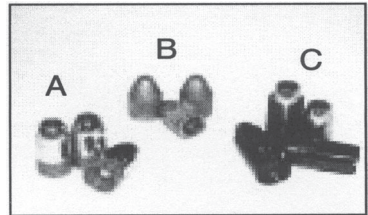

Figure 1-A
PowerBelt™ Bullets are conical projectiles with a plastic base. Like sabots, the PowerBelt™ Bullet's patented snap-on base creates a perfect gas seal, providing consistent pressures and un-surpassed accuracy. But unlike sabots, PowerBelt™ Bullets are easy to load and do not require cleaning after every shot. And they are full caliber sized, so you get the most knock down power possible out of a muzzleloader. PowerBelt™ Bullets are available in .45, .50, and .54 calibers, copper coated or pure lead, with hollow points or AeroTips, and in a variety of grain weights. They are the #1 selling muzzleloading bullet on the market and the only bullet recommend for CVA in-line rifles. (Figure 1-A)
2. CONICAL BULLETS—such as the CVA Buckslayer Bullet and others of this type provide acceptable accuracy in all CVA firearms as well as increased knock down power desired by hunters. These projectiles are best suited for use in medium to fast twist rifling barrels which stabilize the bullet more rapidly. (Figure 1-B)
3. SABOTED BULLETS—Modern sabots from various manufacturers have been tested and provide acceptable accuracy in CVA firearms when complying with the sabot manufacturer's recommendations for usage. Caution: Do not use a sabot bullet weighing more than 300 grains. (Figure 1-C)